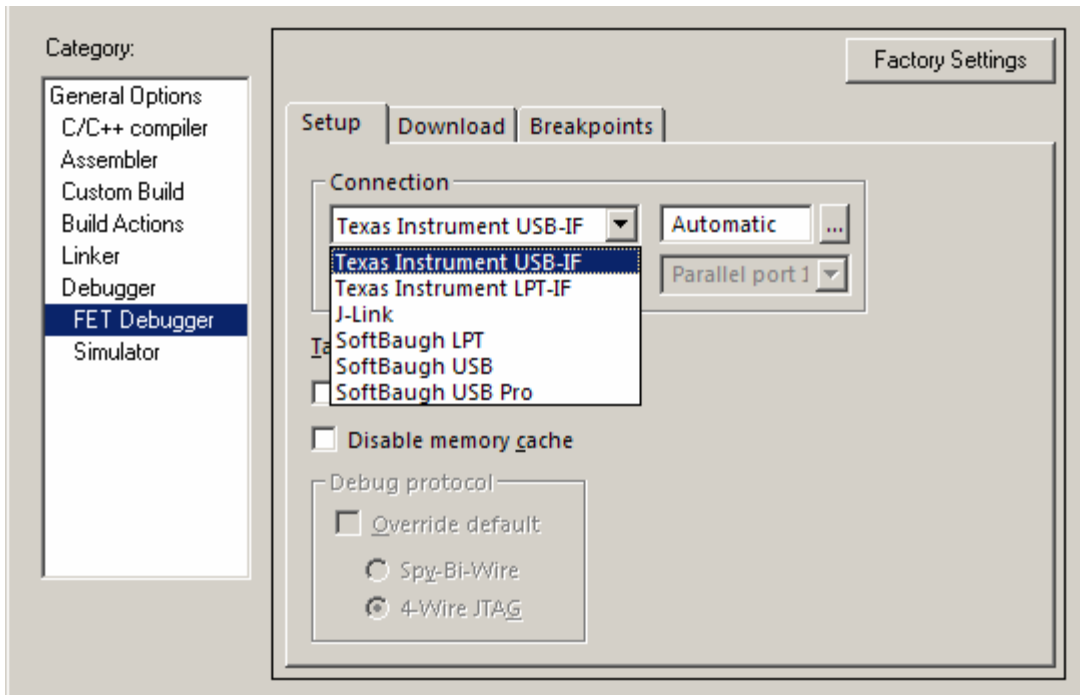

Figure A-3: Selection of the USB interface
- Then proceed to the **FET Debugger** option and choose the Texas Instrument USB-IF as shown in Figure A-3. The default setting of **Automatic** needs no change.
5. Then proceed to the **FET Debugger** option and choose the Texas Instrument USB-IF as shown in Figure A-3. The default setting of **Automatic** needs no change.